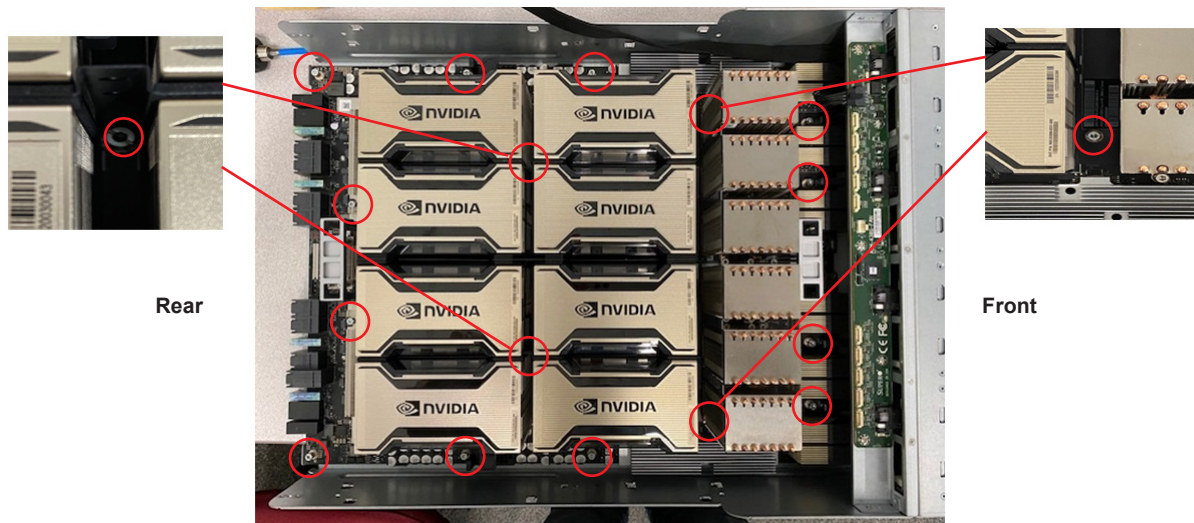

Figure 3-15. Screw Locations
5. While holding the GPU module, remove the sixteen screws that secure the GPU baseboard to the mechanical tray. See Figure 3-15 for the screw locations.